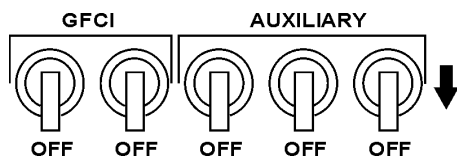

Figure 12. GFCI/AUX. Circuit Breakers (OFF)
3. **NEVER** start the engine with the **GFCI** or **AUX.** circuit breakers in the **ON** position. Always place these circuit breakers (Figure 12) in the **OFF** position before starting the engine.